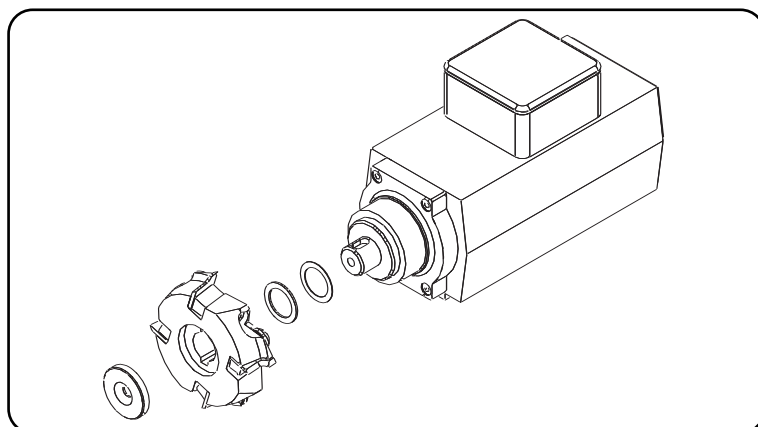

fig. 3.7.8
- to remount please follow carefully mounting sequence fig. 3.7.8